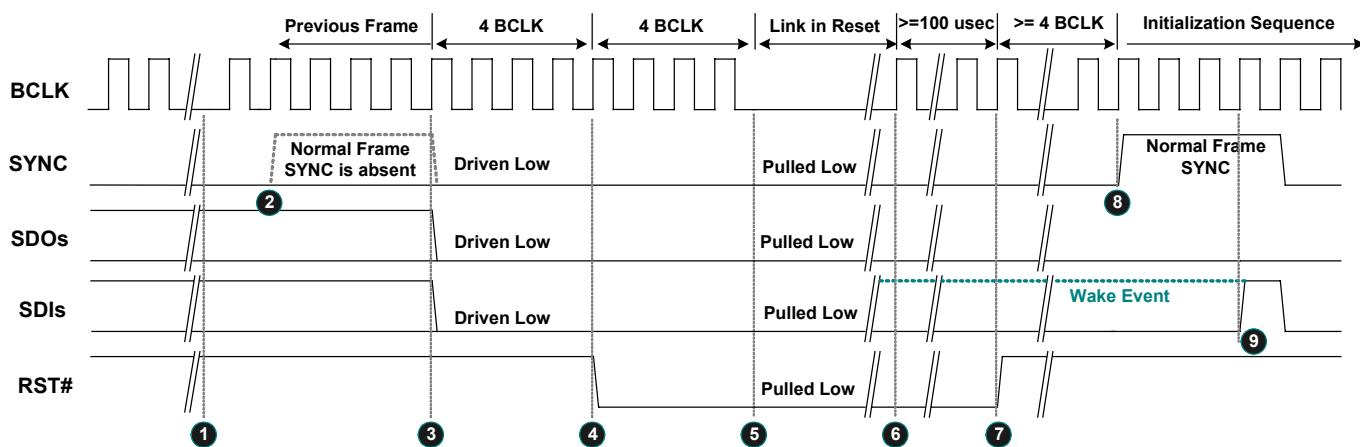

Figure 13. Link Reset Timing
3. Software initiates power management sequences. Figure 13, page 21, shows the ‘Link Reset’ timing including the ‘Enter’ sequence (❶~❽) and ‘Exit’ sequence (❾~❿)